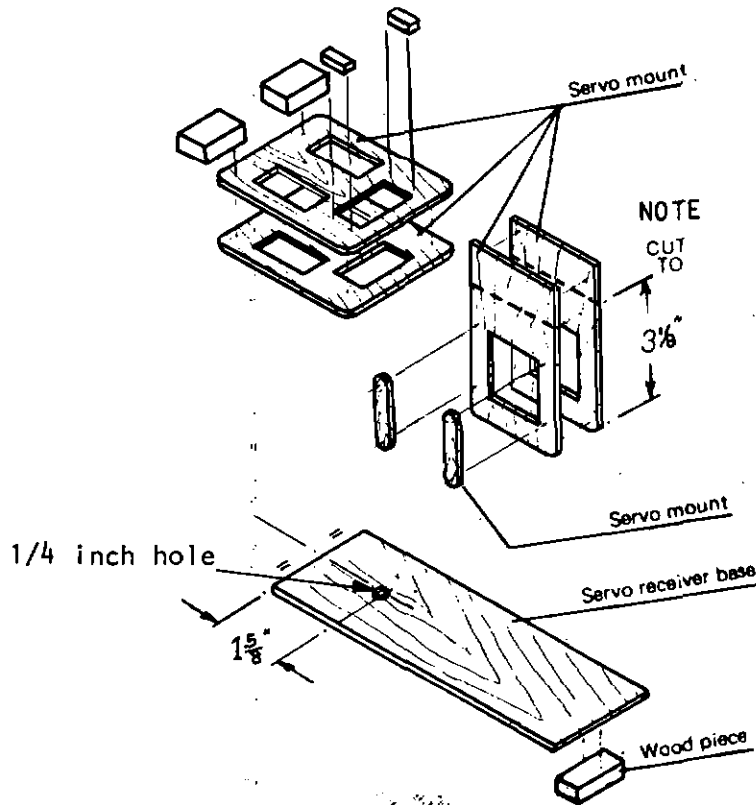

Figure 12
- D. Fit the fin assembly onto the tail boom so that trailing edge of horizontal fin is 6 inches from end of tail boom tube. Use a generous amount of silicone so that filets are formed as shown in Figure 12.
- ~~E~~ E. When silicone has set you can then drill a 1/16" hole through the fin and the tail tube and finally secure the whole assembly to the tail boom with a 2.7 x 8mm wood screw #267. See Figure 12. Note: some fliers prefer to omit the screws so that the whole assembly breaks loose in the event of a crash - you choose.
- K. Fit the 8 1/4 x 2 7/8 x 1/8 inch plywood floor to the front stays on the helicopter and drill four 1/8 inch holes to match the mounting holes in the horizontal aluminum stays. Drill 1/4" dia. access hole as shown in Figure 12.